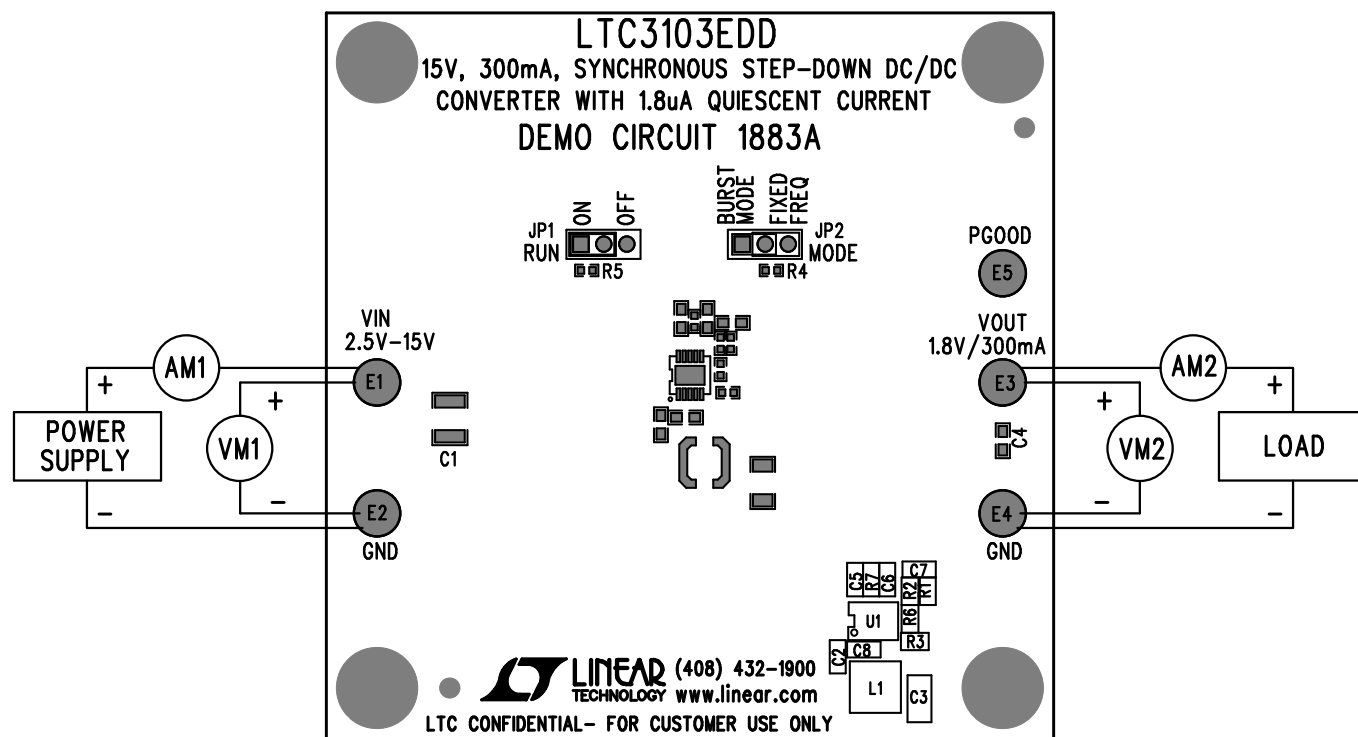

Figure 3. Proper Measurement Equipment Setup
Using short twisted-pair leads for any power connections and with all loads and power supplies off, refer to Figure 3 for the proper measurement and equipment setup. The battery/power supply (PS1) should not be connected to the circuit until it is stated in the following procedure.
2. With power off, connect the power supply (PS1) as shown in Figure 3. If accurate current measurements are desired (for efficiency calculation for example), then connect an ammeter in series with the supply as shown. The ammeter is not required, however.
3. Connect a load to V_{OUT} , as shown in Figure 3. The load can be up to 300mA or 6Ω for $V_{OUT} = 1.8V$. Connect an ammeter if accurate current measurement or monitoring is desired.